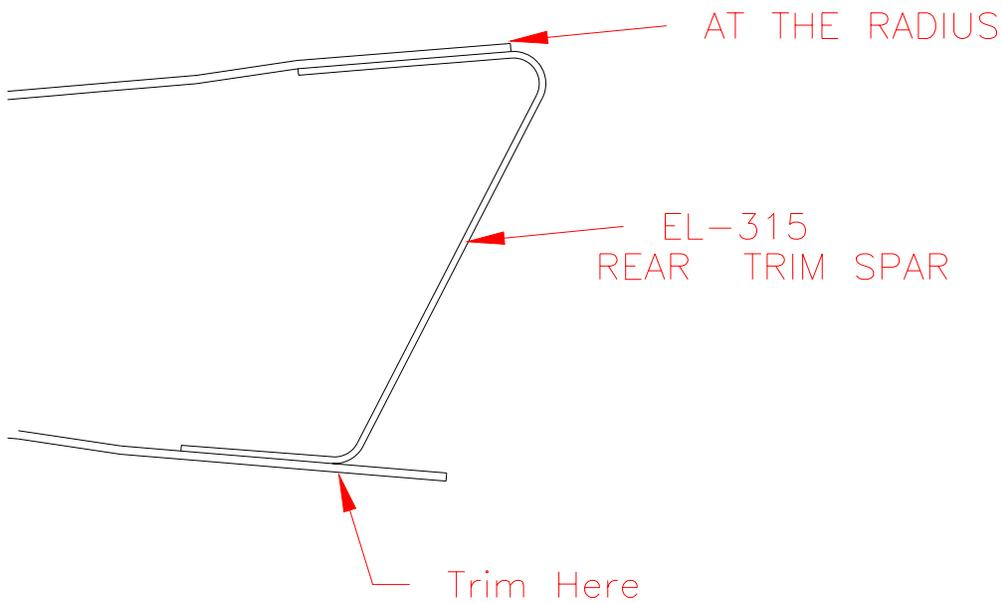

Figure 3.5.5
- 18) Position the Trim Rear Spar (EL-315) as in Figure 3.5.5.